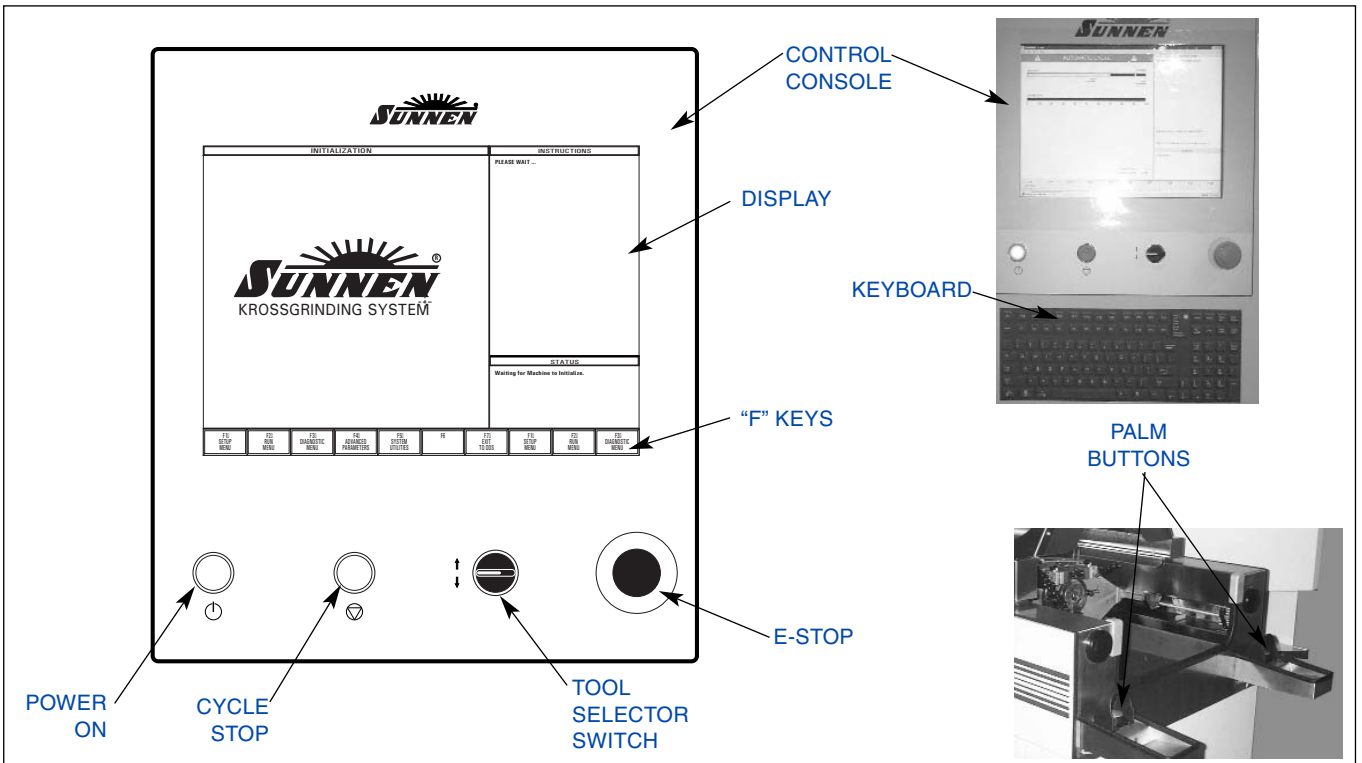

FIGURE 2-13, Operator Control Console
7. OPERATOR CONTROL PANEL is mounted on front of enclosure (refer to Figure 2-13). The Operator can control all Machine functions from Controls mounted on Display Terminal.
For the location and function of the operator controls refer to Figure 2-13 and Table 2-1.